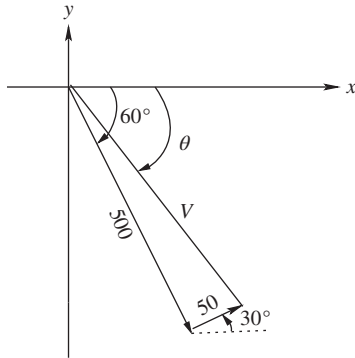

Figure P4.22 Velocity of airplane for problem P4-22.
- 4-22.** An airplane travels at a heading of -60° with an air speed of 500 mph. The wind is blowing at 30° at a speed of 50 mph as shown in Fig. P4.22. Find the speed (magnitude of the velocity \vec{V}) and the direction θ of the plane relative to the ground using vector addition. Check your answer by finding the magnitude and direction using the laws of sines and cosines.